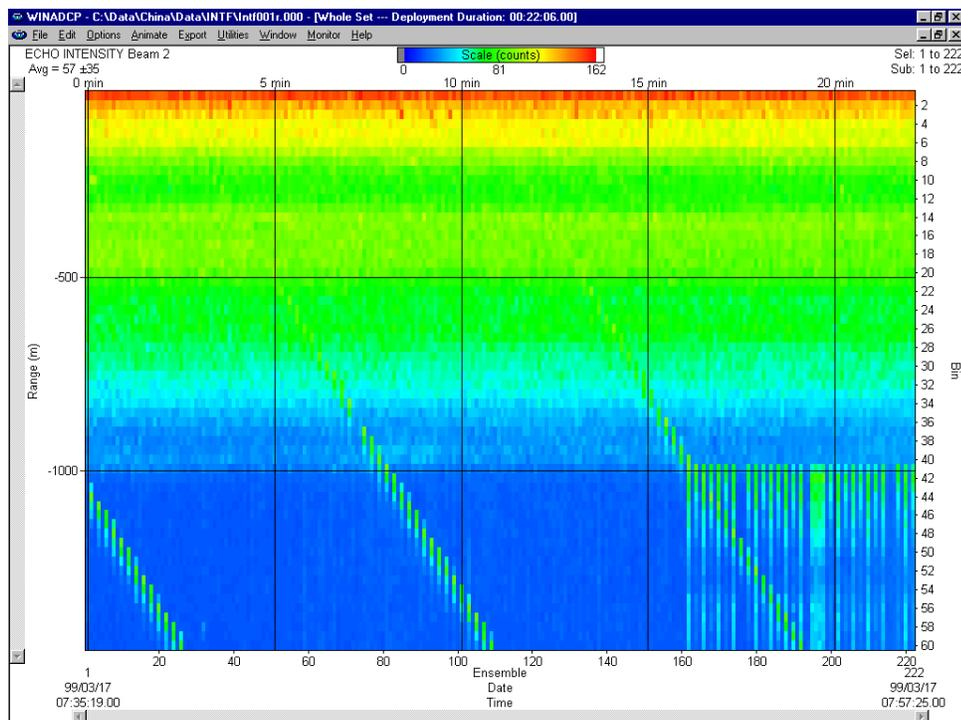

Figure 3. Interference Test
If there is an interference term, the echo intensity data will show spurious echo intensity spikes. An example of what an interference term may look like what is shown in Figure 3, page 10.
**NOTE.** Figure 3 is shown in color in the electronic documentation.